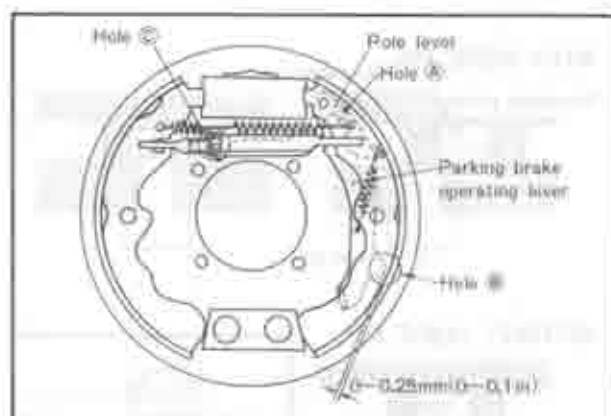

Fig. 11-4 Checking operating lever clearance
8. After adjustments are completed, check the clearance between the parking brake operating lever and shoe through the hole (B), as shown in Fig. 11-4. The clearance should be 0 ~ 2.5 mm (0 ~ 0.1 in).